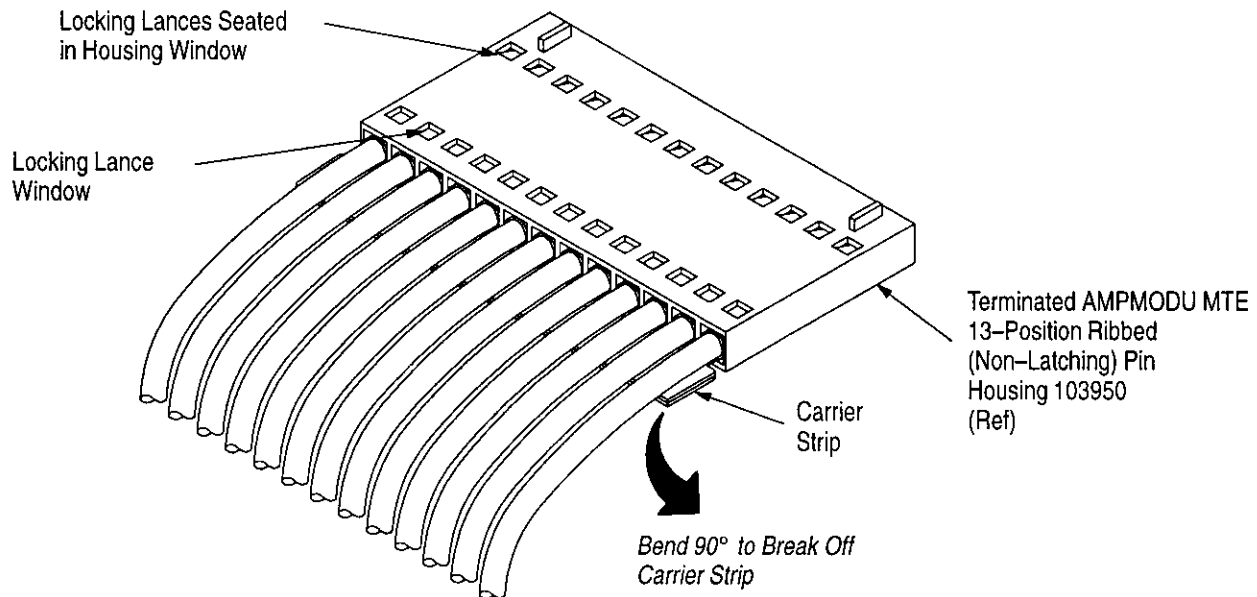

Figure 4
4. TERMINATING PROCEDURE (Figures 4 and 5)
CAUTION Individual housing assemblies with less than 13 contact positions cannot be terminated in the tube feed assembly. To terminate a housing assembly with less than 13 positions (for example, when making repairs), use a strip-form housing. Terminate the contacts in the housing; then push the carrier strip through the insertion station assembly and remove the housing from the tube feed assembly. Inspect the contacts to ensure proper termination. Refer to Section 5, TERMINATION INSPECTION. Manually seat the contacts into the housing until the locking lances are seated against the housing window. Grasp the carrier strip and bend it downward in a 90° angle; then bend it upward until it snaps off. See Figure 4.
12. Grasp the carrier strip and bend it downward in a 90° angle; then bend it upward until it snaps off. Refer to Figure 4.